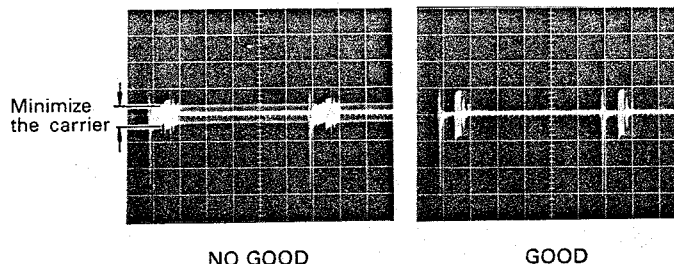

Fig. 6-4-44
- Adjust B- $Y_L$  CARRIER BALANCE VR319 and R- $Y_L$  CARRIER BALANCE VR320 alternately until the 4.43MHz carrier component during blanking period is reduced to a minimum. (Fig. 6-4-44)